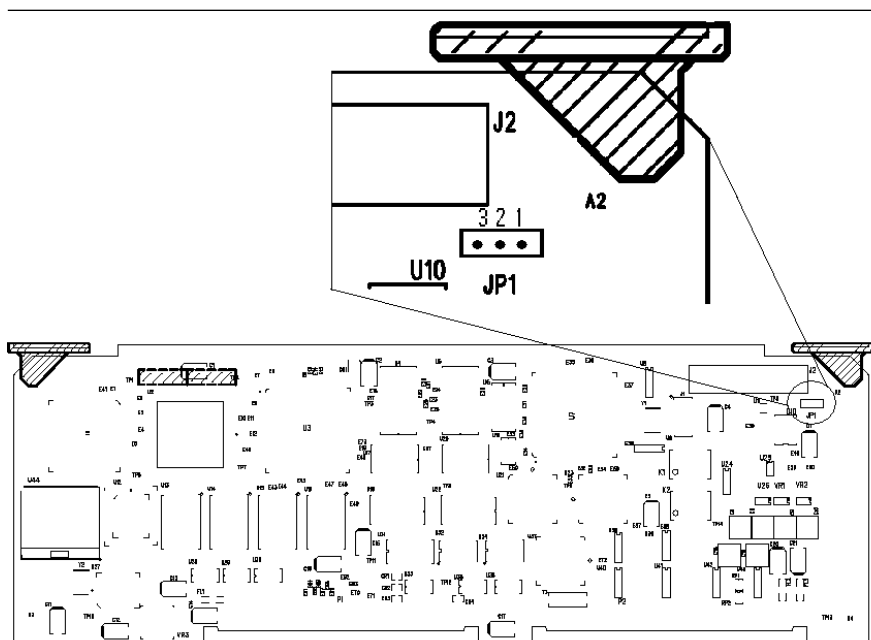

Figure 1-4. Startup Configuration of A2 Connector JP1
The MG369XA comes from the factory with a jumper across pins 2 and 3 of the A2 microprocessor PCB connector JP1 (Figure 1-4). In this configuration, connecting the instrument to line power automatically places it in operate mode (front panel OPERATE LED on).
- Step 3.** Locate the connector JP1 and remove the jumper from across pins 2 and 3. Refer to Figure 1-4 below.